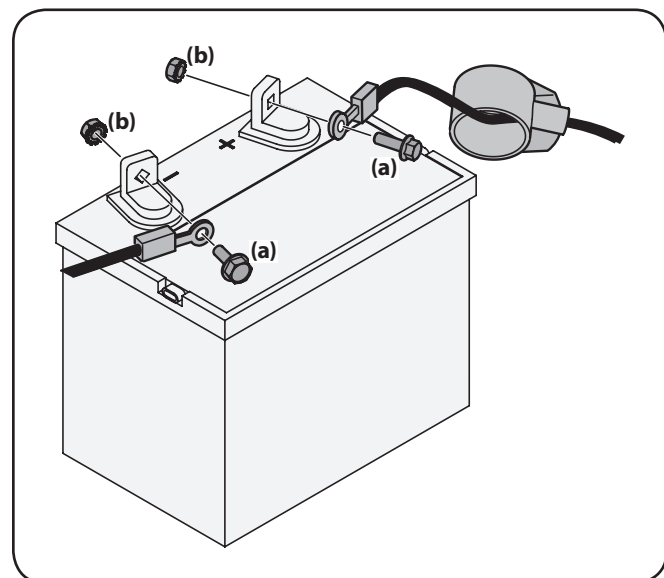

Figure 3-2
1. Attach the red cable to the positive(+) battery terminal and the black cable to the negative (-) battery terminal with the bolts (a) and hex nuts (b) provided. See Figure 3-2.